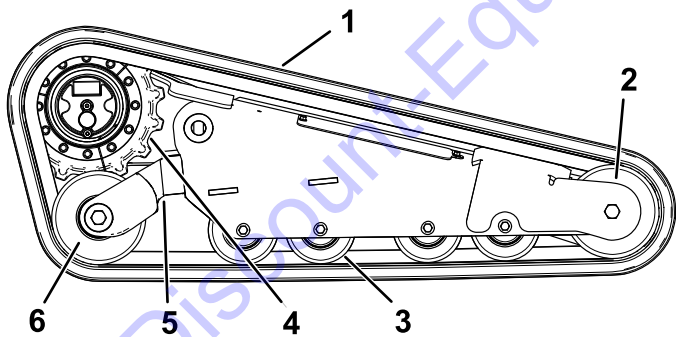

Figure 69
**Important:** Ensure that you fully clean the road wheels, the front wheel, and the drive sprocket (Figure 69). The road wheels should rotate freely when clean.